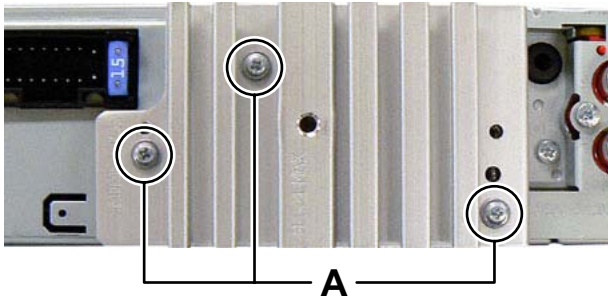

Fig.1
#### 3.1.1 Removing the bottom chassis (See Fig.1, 2)
- (1) Remove the three screws **A** attaching the Heat sink. (See Fig.1)
#### 3.2.1 Removing the MECHANISM CONTROL BOARD assembly (See Fig.1 and 2)
- (1) From the bottom side of CD MECHANISM assembly, remove the solders from the soldered sections (a, b and c) on the MECHANISM CONTROL BOARD assembly. (See Fig.1.)
- (2) Remove the three screws **A** attaching the MECHANISM CONTROL BOARD assembly. (See Fig.1.)